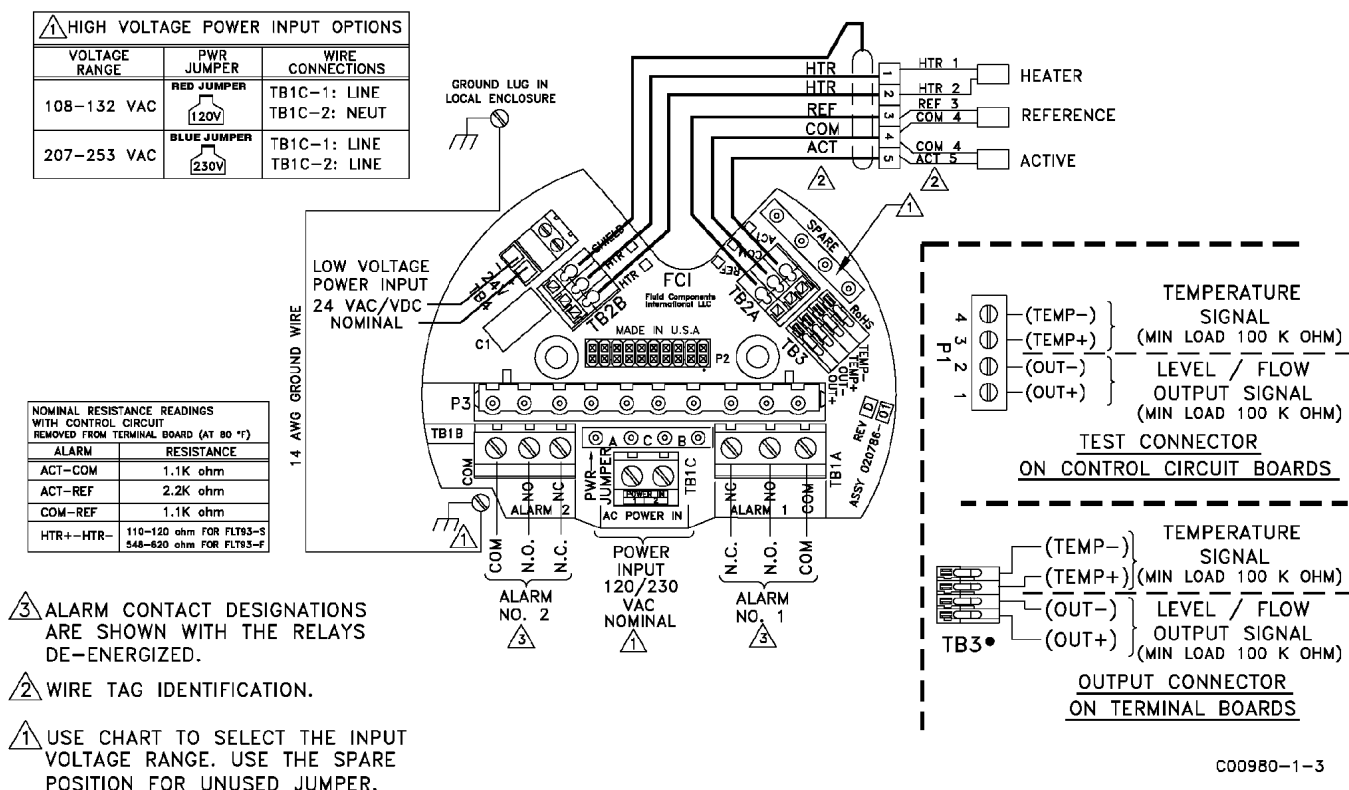

Figure 2-9 Remote Wiring Diagram
5. When connecting the relay wiring, do so with complete understanding of what the process requires of the instrument. The instrument has dual SPDT or single DPDT relay output contacts dependent on the jumper configuration for each alarm switch point. For the relay terminals and logic, refer to Figure 2-9. Also refer to Table 3-5 and Table 3-6 in Section 3 - Operation. Relay contacts are shown with the relays de-energized. Wire in accordance with the system requirements.